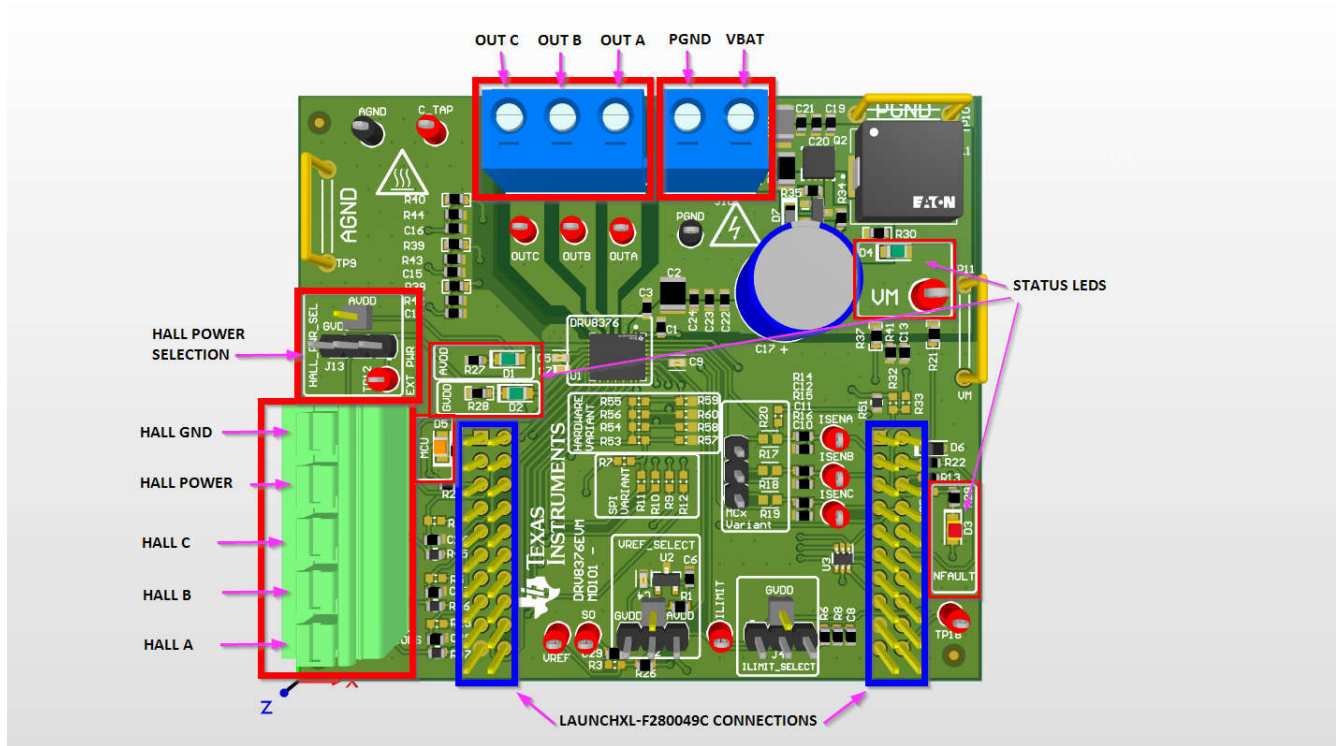

Figure 2-1. DRV8376EVM Major Hardware Blocks
The following section describes the EVM hardware and connections to the external supply, hall sensors, PC via USB, and motor. The major blocks of the DRV8376EVM are shown in Figure 2-1. The DRV8376EVM is designed for an input supply from 4.5V to 65V.
3. Do not turn on the power supply yet. Connect the motor supply to VM and power supply ground to PGND. PGND and VM locations can be found in Figure 2-1.